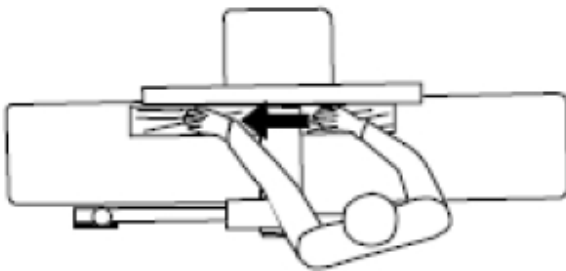

Fig. 19: Correct operating position
The operator must be positioned offset to the infeed table (see Fig. 19).
Step 2: After the cut is under way, the new surface rests firmly on the outfeed table. The left hand is transferred to the outfeed side (Figure 19) and presses down on this part of the workpiece, at the same time maintaining flat contact with the fence. The right hand presses the workpiece forward and before the right hand reaches the cutter head it should be moved to the work on the outfeed table.